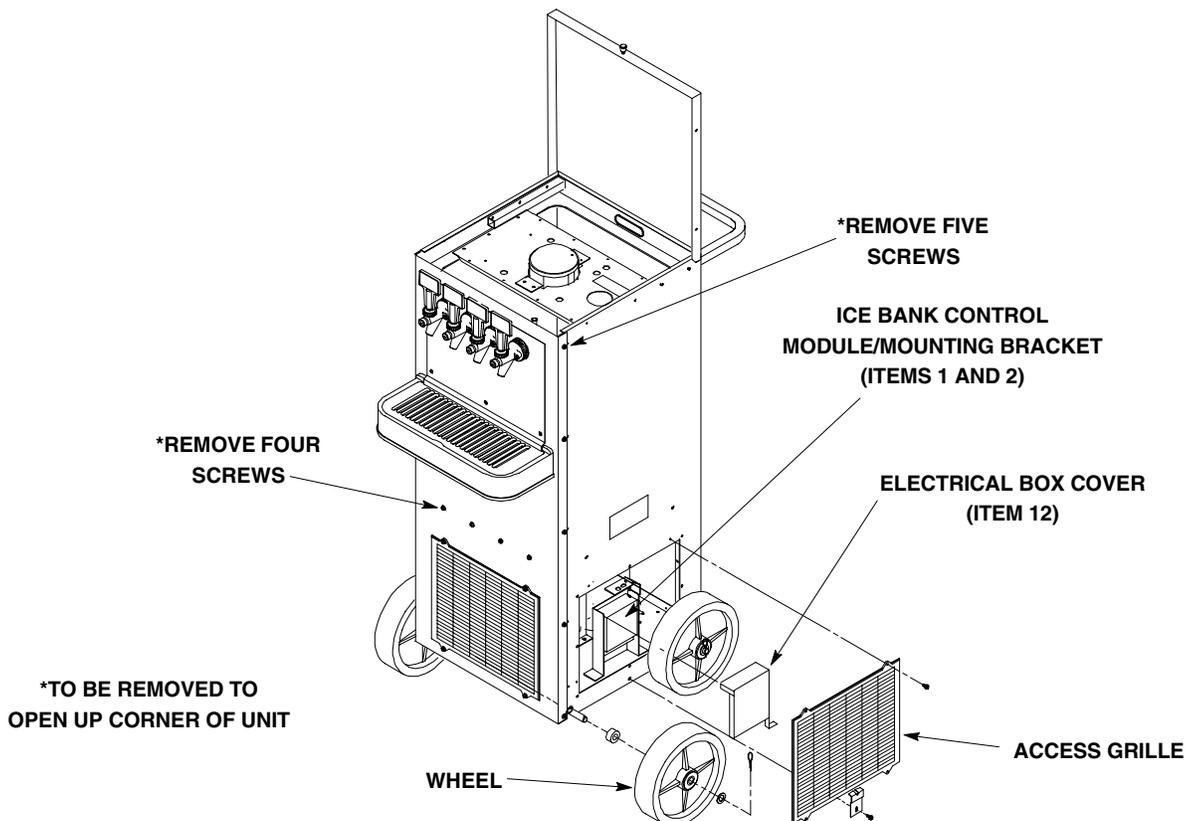

FIGURE 1. UNIVERSAL C-750
2. Place wood block under front of unit, then remove right front wheel as shown in Figure 1.
3. Remove six screws securing right corner of the unit together (see Figure 1).
26. Route green electrical ground wire from large electrical connectors labeled "A" connected to the Ice Bank Control Module and the green electrical ground wire protruding out of the Unit wiring harness to a location away from where the Ice Bank Control Module will be located. Drill a .140 diameter hole in the unit base where the two green ground wires will be connected. Connect the two green ground wires and secure with SCREW, SELF DRILLING (item 7).
27. Install COVER, ELECTRICAL BOX (item 12) on the ice bank control module and secure with SCREW, SELF DRILLING (item 7).
28. Hold the new ice bank control module in approximate location (see Figure 1) where it will be secured to the bottom panel of the unit.
31. Place ice bank control module over holes drilled in unit floor panel, then secure control module to floor panel with four SCREWS, SELF DRILLING (item 7).
32. Using WIRE TIES (item 10), bundle and tie electrical wires together to prevent wires from interfering with the unit compressor or any other moving parts.